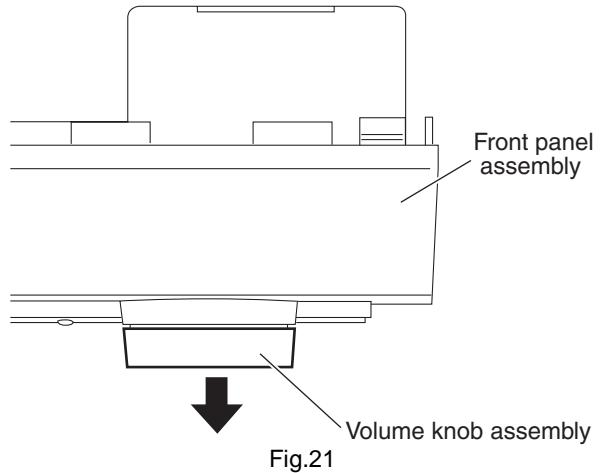

Fig.21
(See Figs.21 and 22)
- From the front side of the front panel assembly, pull out the volume knob assembly in the direction of the arrow. (See Fig.21.)